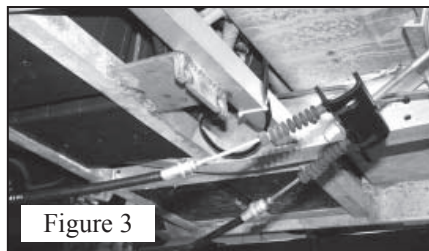

Figure 3
4. Slide the brake cables from the frame bracket and let them drop out of the way. See figure 3.